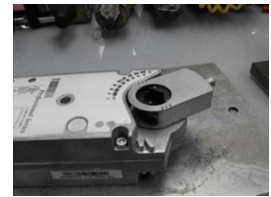

Figure 3
3. Attach Locking Clip to the underside of the Shaft Coupling to secure it in the Actuator as shown in Figure 3.
4. **Depress the manual override button on top of the Actuator and match the full counter-clockwise position of the Shaft Coupling to the full counter-clockwise rotation of the Ball Valve (1).**
NOTE: When installed in a Weatherproof Enclosure, the Shaft Coupling of the Actuator needs to be installed on the bottom side of the Actuator (Figure 10) instead of the top side (as mentioned in Step 2 – Figure 3).